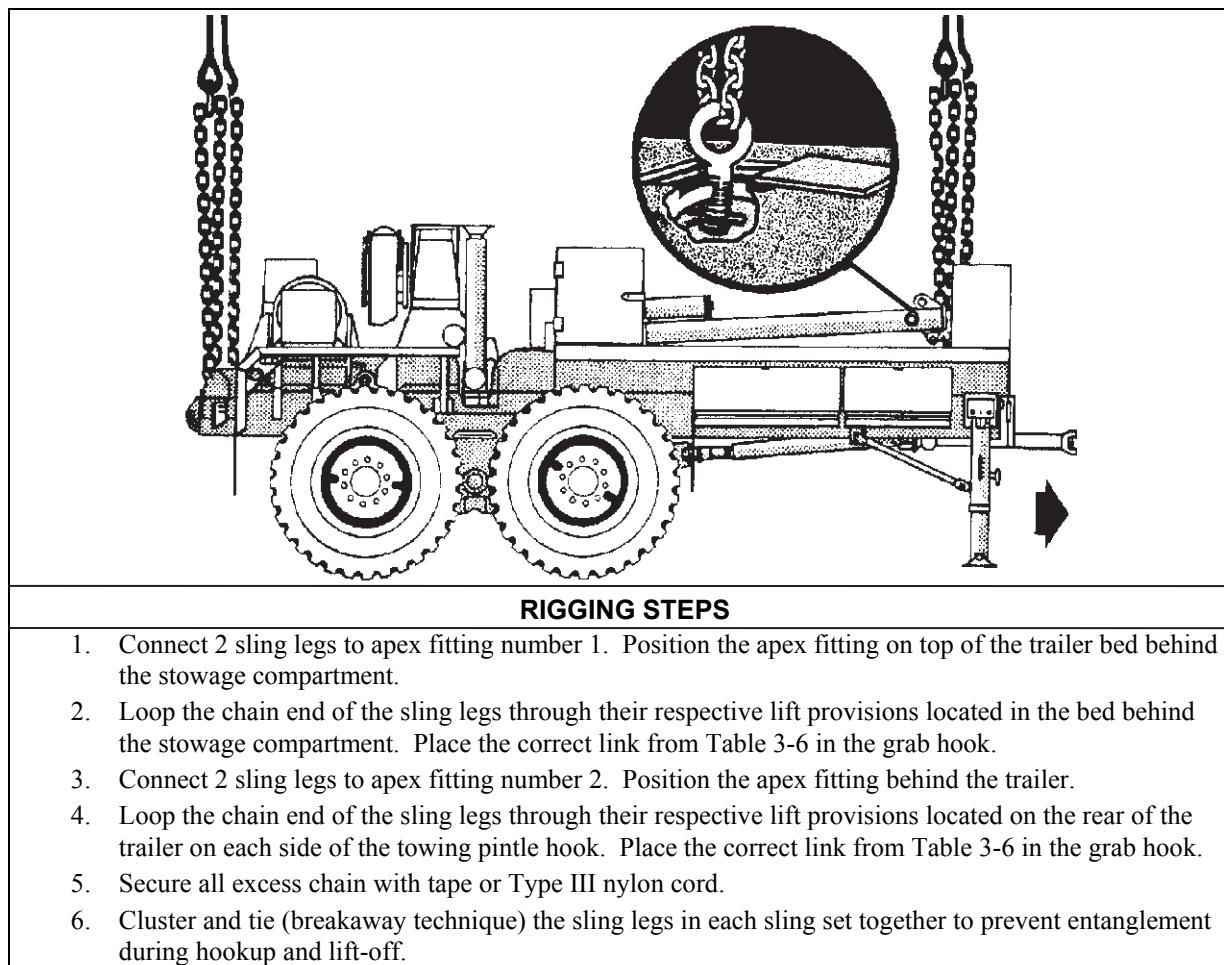

Figure 3-6. Mk15 Trailer, Wrecker/Recovery
- **Rigging.** Rig the load according to the steps in Figure 3-6.